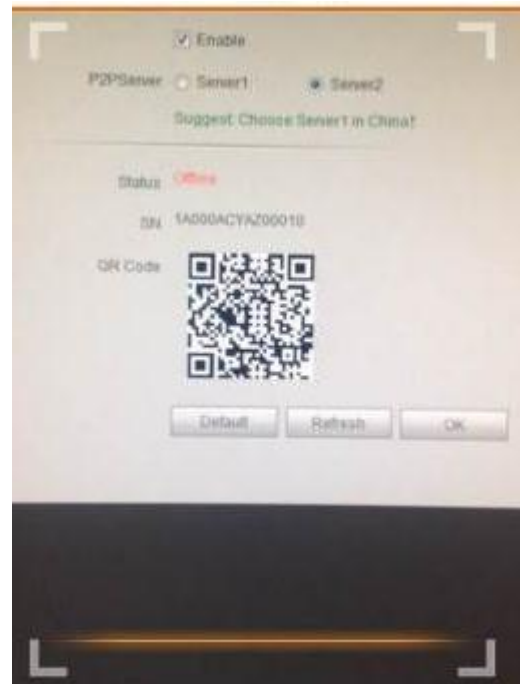

Figure 4-5
- b) Use the cell phone to scan the QR code of VTO on the device's label or Web. See Figure 4-4 and Figure 4-5.